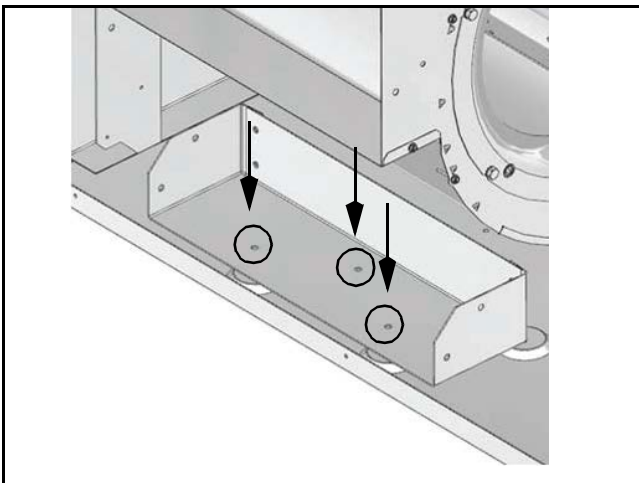

Fig. 21
12. Reinstall the bracket removed in step Fig. 3 to the same location using three screws. (See Fig. 21.)